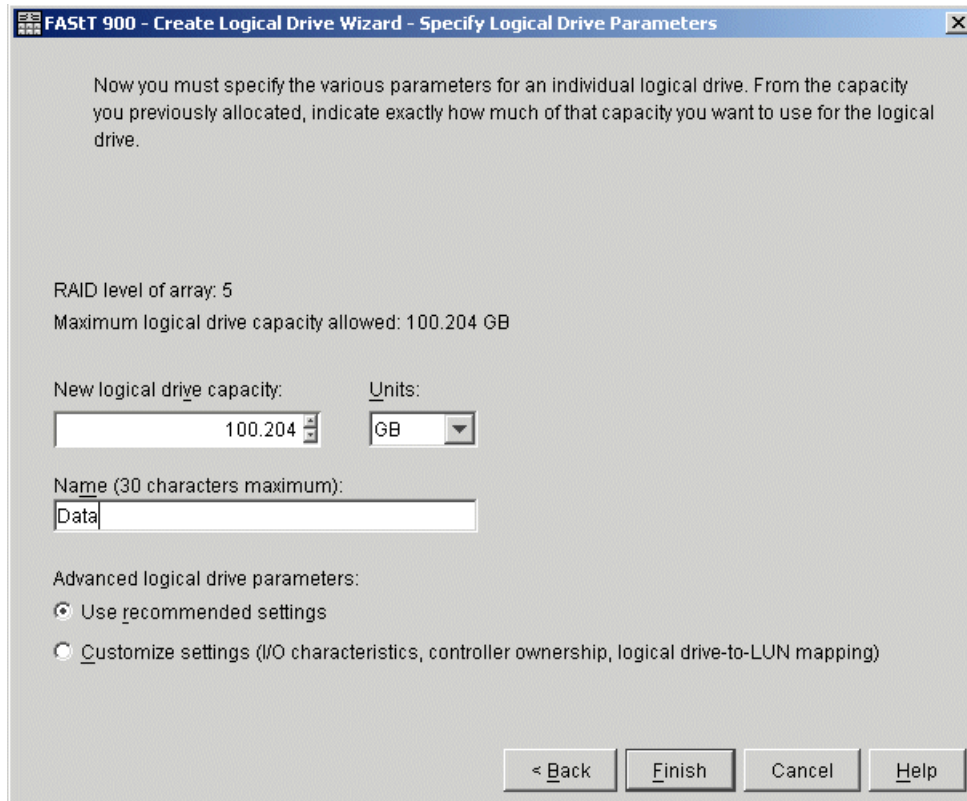

Figure 5-28 Logical drive parameters
4. Define the logical drive (Figure 5-28 on page 148). By default, all available space in the array is configured as one logical drive.